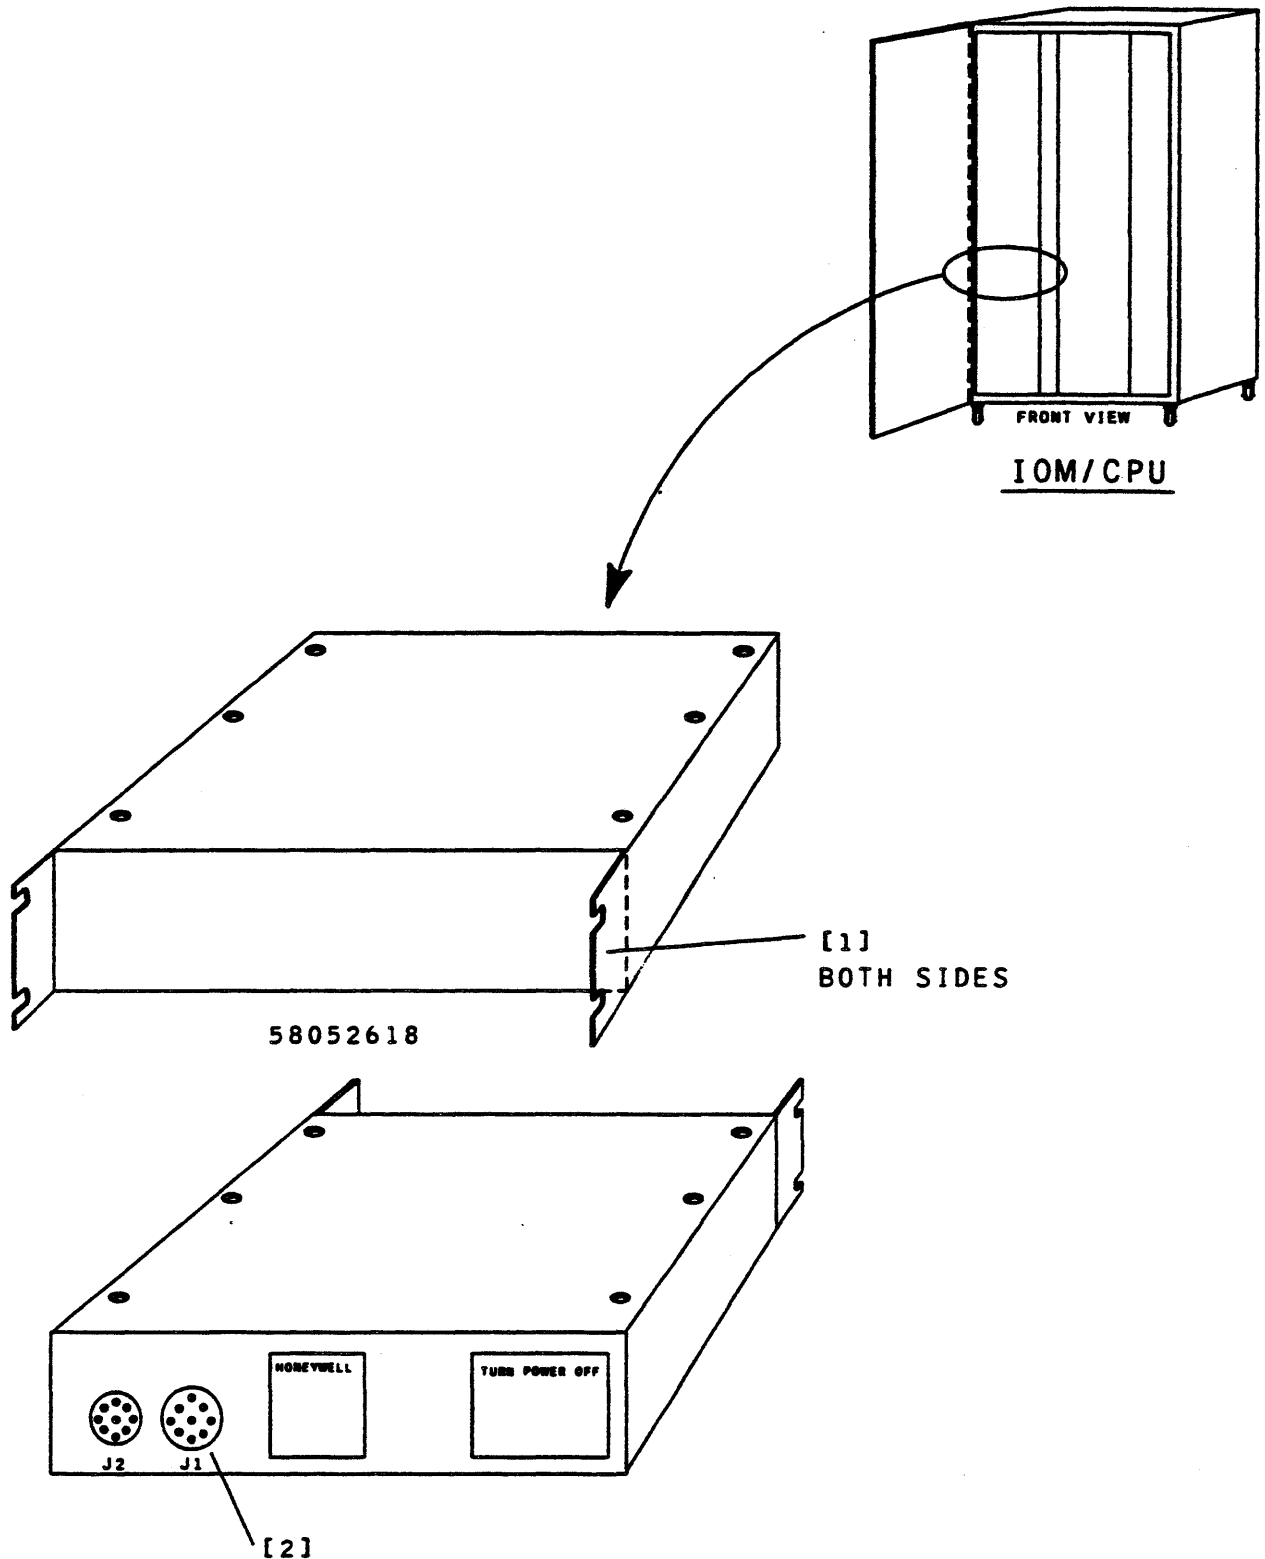

FIGURE 2.35-1. SOFT START MODULE REMOVAL/INSTALLATION
5. Using a cross-tip screwdriver, remove faulty regulator's front retaining hardware (Figure 2.35-1, [1]).
6. Disconnect modules rear connector plugs (Figure 2.35-1, [2]).